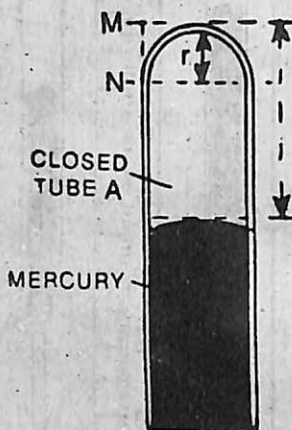

Fig. 25.2.
1. Find the vernier constant of Fortin's Barometer. With the help of the screw provided at the bottom end of the barometer, adjust the mercury level in the cistern till the mercury level touches the ivory head in the cistern. Hold eye in front of the mercury level in the tube. Slide the vernier till zero of the vernier just touches the mercury level. Read the mercury level on the scale. It gives the atmospheric pressure (H).
5. Take the reading at the top end of the closed tube at M with the help of a set square setting one of its edges parallel to the vertical scale and the other tangential to the curved surface. Take another reading of the closed tube at the point N (Fig 25.2) where the curvature just ends. Find the difference MN and calculate the correct reading of the top of the closed tube A by subtracting $\frac{1}{2}$ MN from the reading at M. Also take the reading of the mercury level in the tube A. The difference between the two readings gives the effective length of the air column (l) which is proportional to the volume of the air enclosed. Thus find out the volume ' V ' in each observation as explained above.